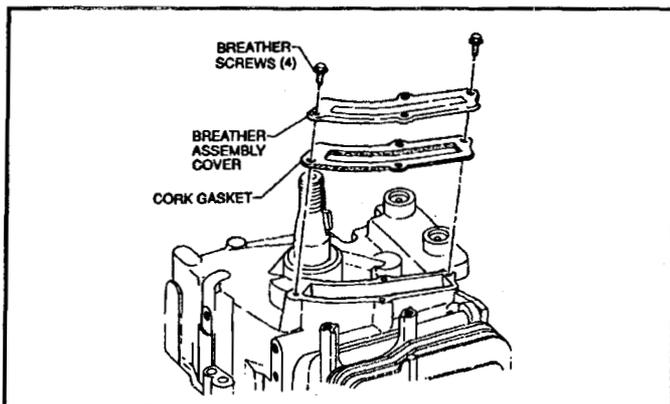

Figure 85
1. Install the gasket cover and four screws that retain the breather passage cover. See Figure 85.